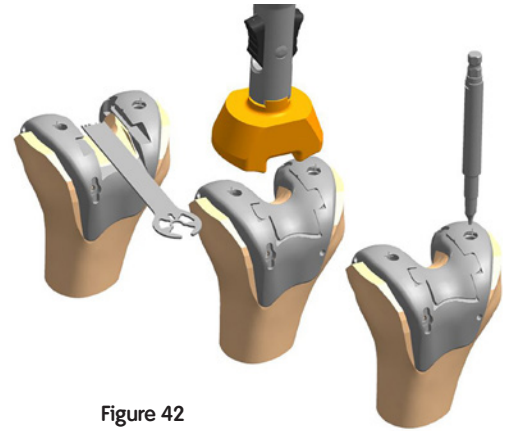

Figure 42
5. Using the angled face on the femoral trial as the guide, remove the anterior intercondylar femoral bone using a narrow sawblade (Figure 42).
6. Select the appropriate size JOURNEY® II CR notch trial and engage the anterior portion of the notch trial first. Then use the femoral implant impactor to impact the posterior portion of the notch trial until it sits flush with the femoral trial (Figure 42).
7. Use the Lug Drill to prepare for the femoral lugs by drilling to the bottom of both distal holes in the femoral trial (Figure 42).